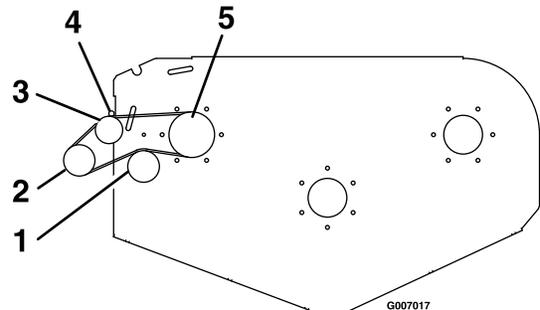

Figure 17
D. Pull the spring loaded idler release handle back and install the belt in the upper groove of the top spindle sheave. The belt should be routed as shown in Figure 17.